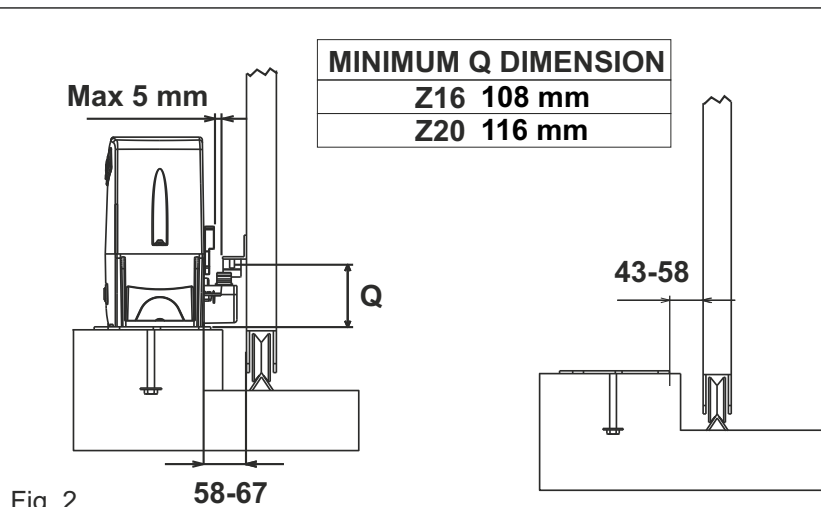
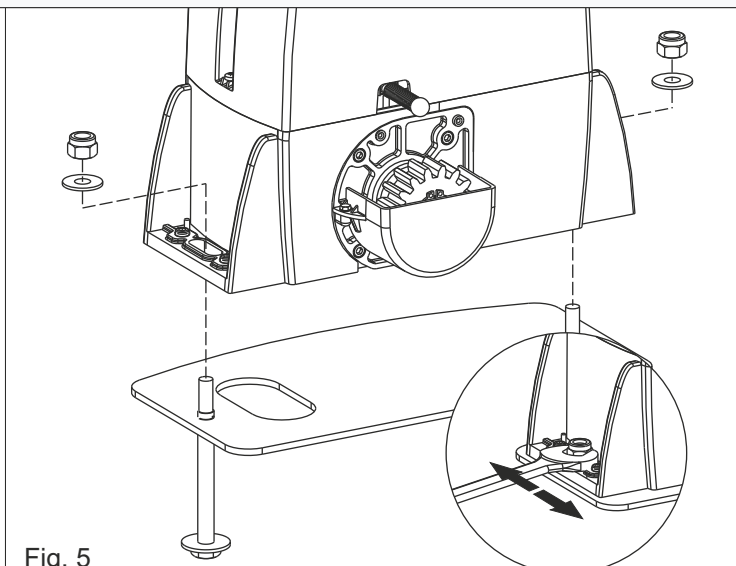

Fig. 2
Fig. 5
**2.3.** Before concreting the plate, make sure that it is perfectly levelled and that the distance of 58-67 mm as shown in Fig. 2 is respected
**4.2.** Fix the gear motor to the foundation plate using the 2 included nuts, adjusting the side position (Fig. 5) so to respect the shown quota in Fig. 2